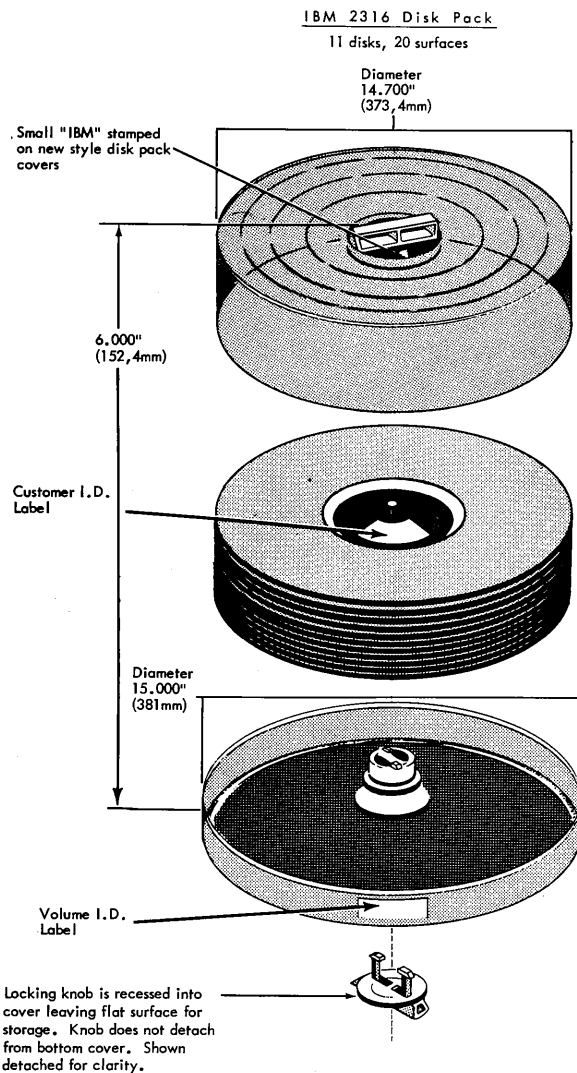

Figure 49. IBM 2316 Disk Pack Assembly
1. Be sure the pack is secure in its two-piece cover. (Figure 49)
For identification purposes, IBM recommended labels can be placed on the disk pack center hub (Figure 49). Labels in this location can be read through the transparent disk cover.
A two-piece plastic cover (Figure 49) protects the disk pack from dust and moisture when the disk pack is not in the file drive module. If the cover is damaged, it may lose its protective capability and should be replaced.